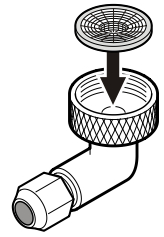

Figure 14
- Insert the water strainer provided into the OD adapter with the cavity downwards (Figure 14).